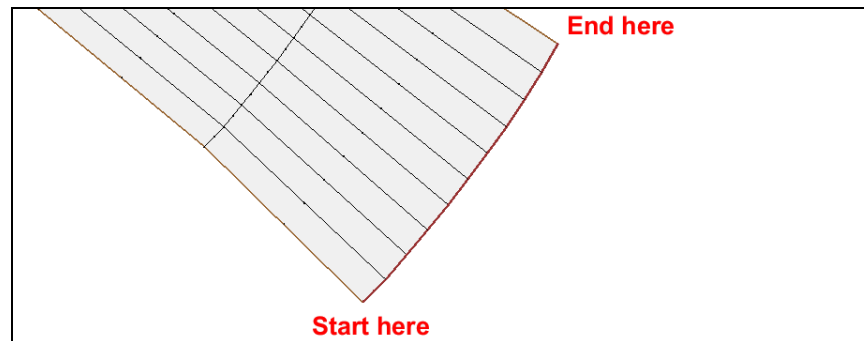

Figure 3 Start and end of the outflow nodestring
3. Using the **Create Nodestring**  tool, create the outflow nodestring by clicking on the bottom outlet node (since it would be on the right if facing downstream), then pressing *Shift* while double-clicking on the top outlet node to end the nodestring (Figure 3).